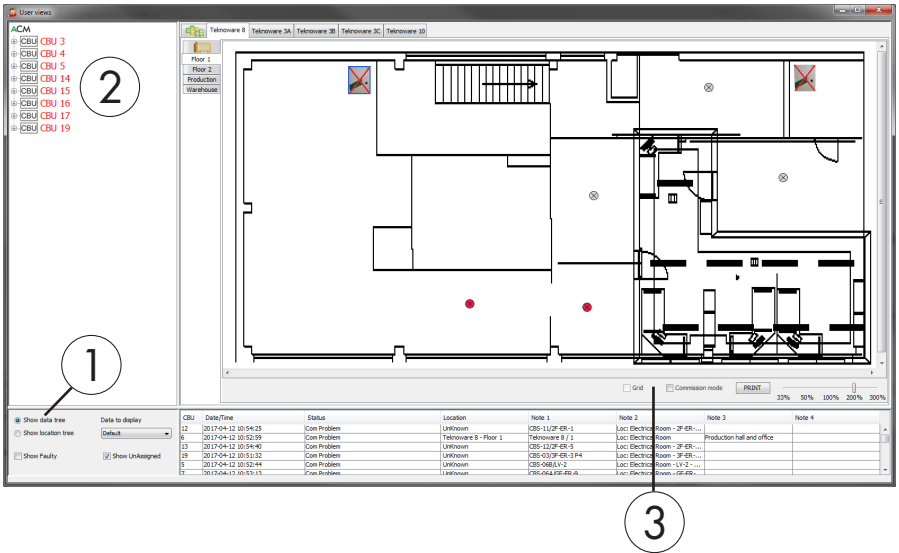

Figure 11. USER VIEWS window
1. Make sure that the Show data tree is selected from the display options (No. 1 in Figure 11). Start by selecting the correct Building under which the correct Area is. Then, select the correct Area. The Area Plan image is displayed.
2. Select the luminaire or CBU you wish to add to the layout map from the data tree (No. 2 in Figure 11), right-click the luminaire/CBU, and select Add to Map. Then, left click the layout map on the spot you wish to add this CBU or luminaire to. The CBU/luminaire icon is now displayed on the map. If you wish to move the CBU/luminaire, select the Commission mode on the map options (No. 3 in Figure 11), click the icon you wish to move, and click a new location). To add a grid to assist device placement on the image select Grid. Repeat the procedure until all the CBUs and Luminaires are in their right places.